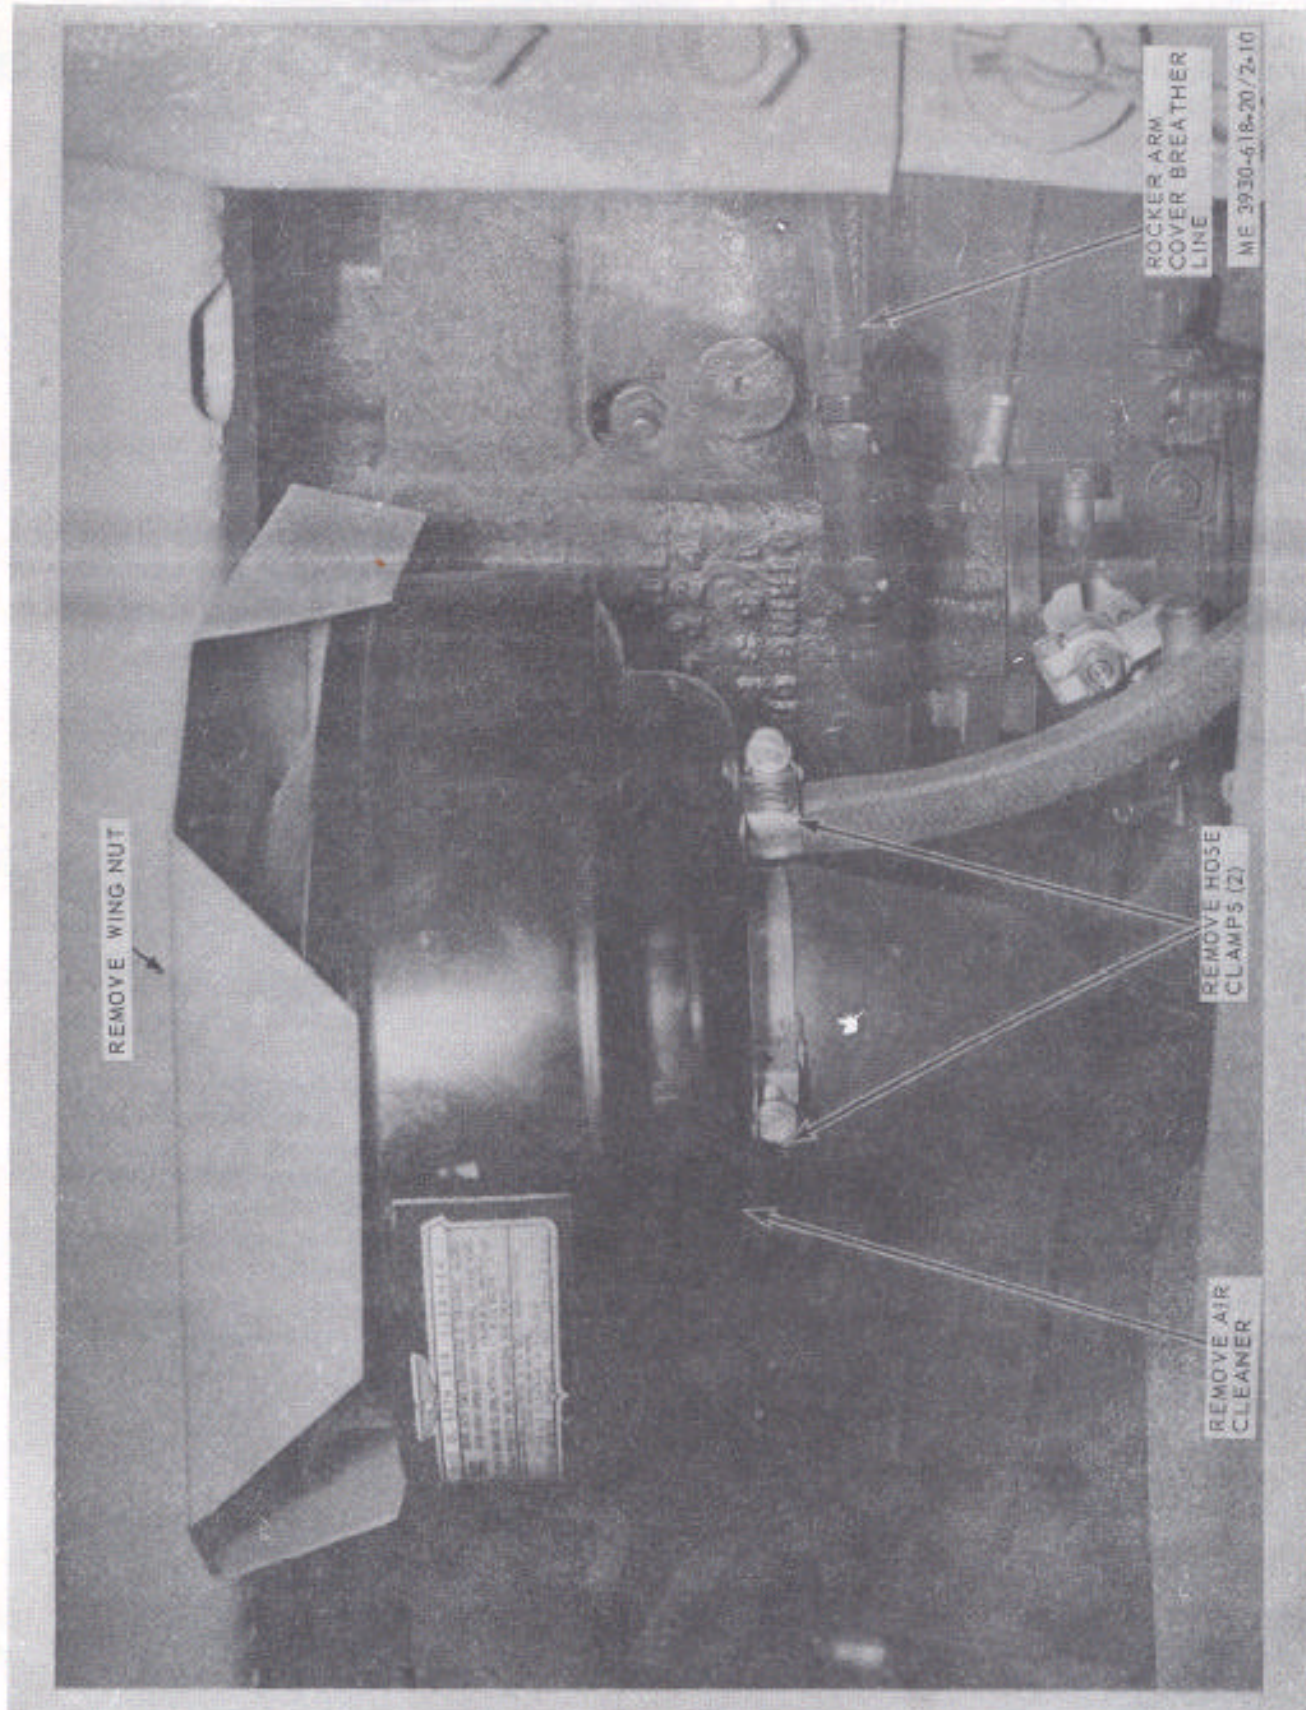

Figure 2-10. Carburetor air cleaner, installed view.
a. *Removal.* Loosen the hose clamp, unscrew the wingnut, and lift out the filter assembly (fig. 2-10).
(1) Pour out the old oil from the oil cup and scrape away accumulated dirt from the bottom of the oil cup.
(2) Clean the cover, oil cup, and base assembly inside and outside with SD.
(3) Refill the oil cup (capacity 1/2 pt) with engine oil of grade and weight presently used in the engine.
(1) Assemble the base assembly to the tubing and tighten the clamp. Make sure that there is an airtight connection.
(2) Insert the through-bolt through the mounting bracket as shown in figure 2-10 and tighten the wingnut.